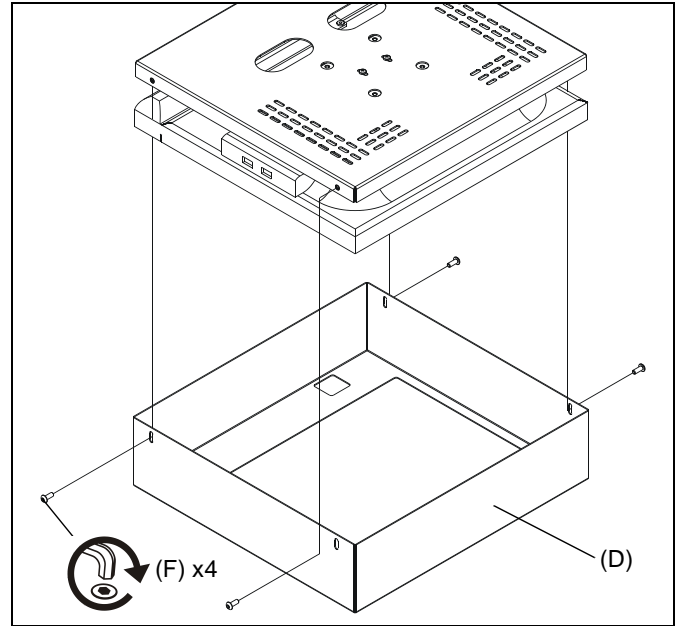

Figure 3
4. Attach display with back cover to front cover (D) using four 10-24 Button head cap screws (F). (See Figure 3)
NOTE: The front cover may be removed for cable connections. This is done by removing the four 10-24 screws installed in Step 4 on previous page (Figure 3).